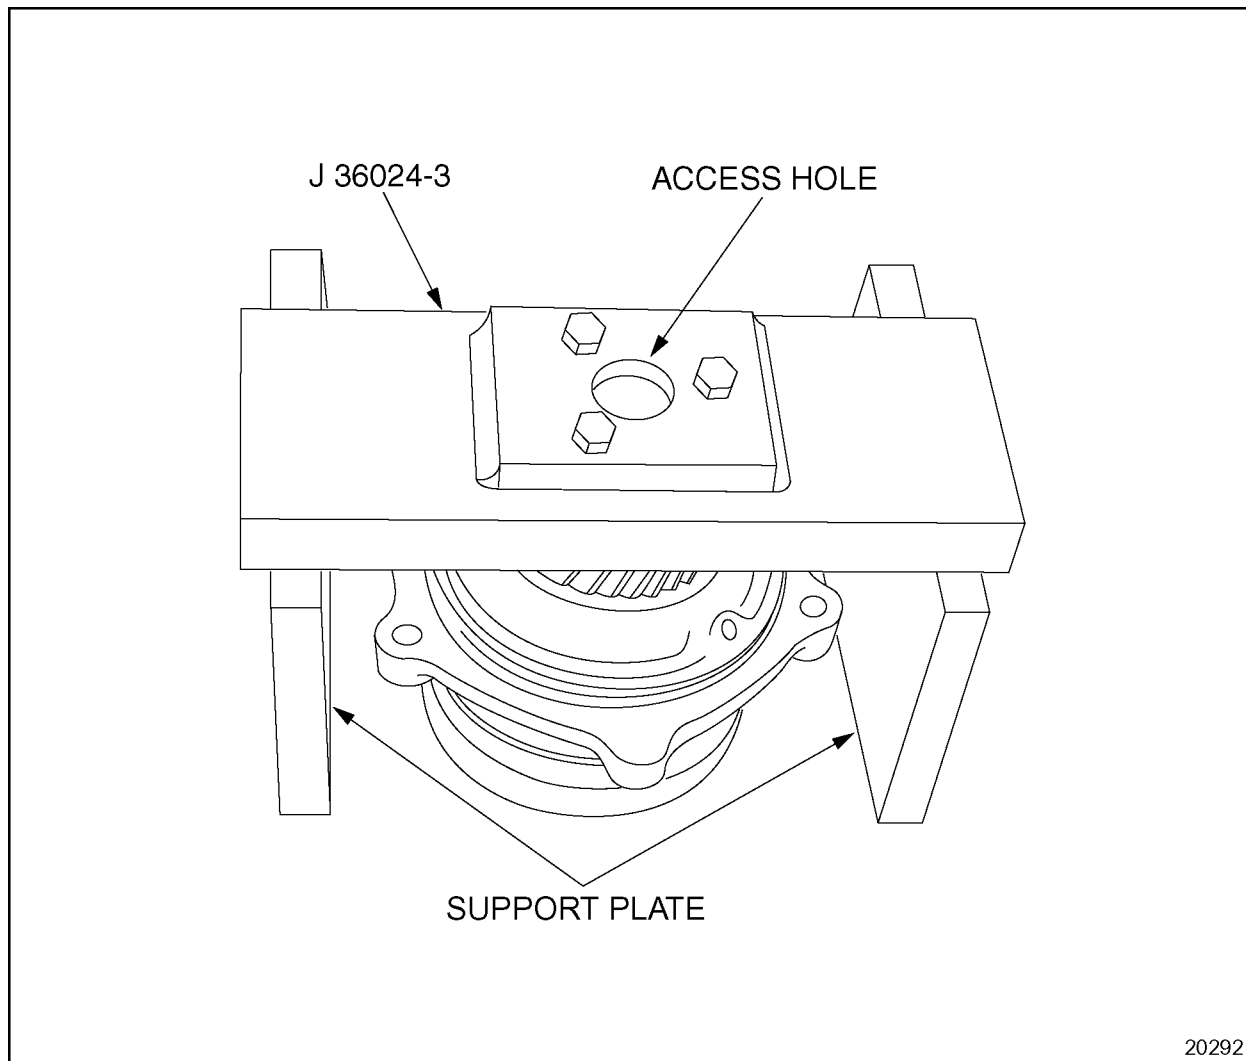

Figure 1-390 Accessory Drive Gear Removal
8. Position the accessory drive assembly on a press bed with the holding fixture supported. See Figure 1-390.